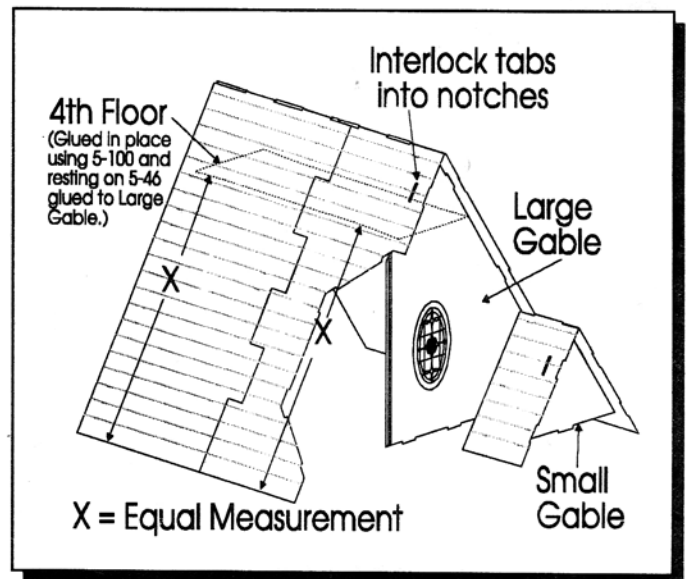

Figure 27
9. Glue Roofs, Gables and 4th Floor together as in Figure 27. The 4th Floor glues to the top of the 4th Floor Support on the inside of the Large Gable. Make sure the 4th Floor is installed squarely by measuring from the bottom edge of the roof at several places to the edge of the 4th floor.